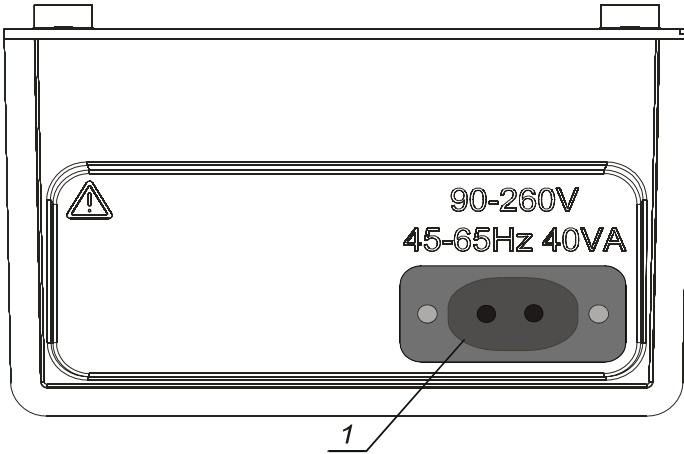

Fig. 4 Mains Connector
- Socket for mains supply cable (Fig. 4).